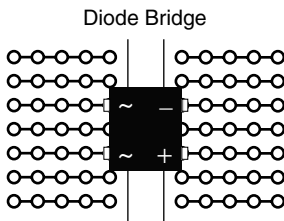
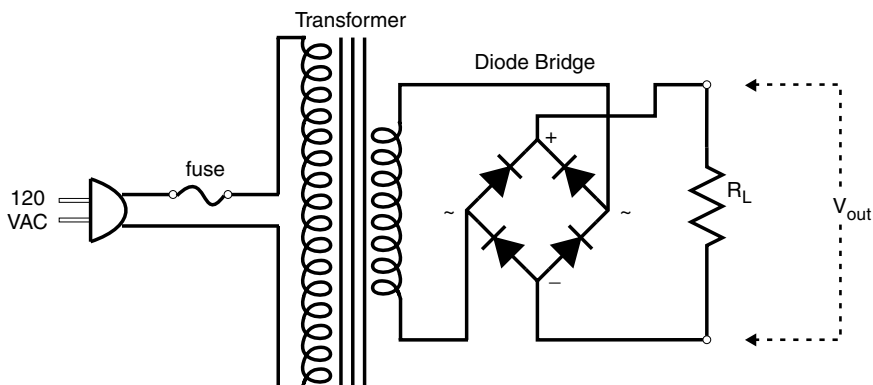

Fig. 3.9. An example of how to insert a diode bridge into a breadboard.
Fig. 3.10. Full-wave rectification using a diode bridge.
Full-wave rectification should decrease the ripple by about a factor of two. This can be accomplished using two diodes and the transformer’s center tap or by using a diode bridge. Diode-bridge rectifiers are available as a single encapsulated unit, making the bridge-rectifier approach particularly convenient. These bridges have four diodes within. The terminals are labeled: ‘~’ marks the two terminals that should be connected to the transformer secondary, and ‘+’ and ‘–’ denote the positive and negative outputs (see Fig. 3.9).
- ▷ Set up the bridge rectifier circuit of Fig. 3.10 with $R_L = 10\text{ k}$. (Insert the rectifier package straddling the central groove of a breadboard socket unit, with the long dimension of the package running along the groove, as shown in Fig. 3.9.) Four rectifier diodes can be used if a bridge rectifier is not available. As before, observe and record the voltage waveform across R_L .